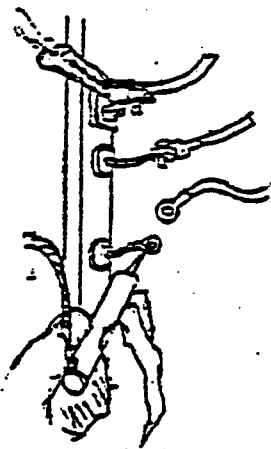

FIGURE 4
- (b) A short circuit failure of one or both diodes. First disconnect one diode. Using a low voltage continuity tester check each diode as shown in Figure 4. Then reverse the tester leads and check each diode again. If the diode conducts current in both directions the diode is shorted and must be replaced. Replace either the entire heat-sink assembly or the defective diode. When replacing a single diode be sure the new diode is pressed squarely into the hole and that it does not extend beyond the rear surface of the heat-sink plate.